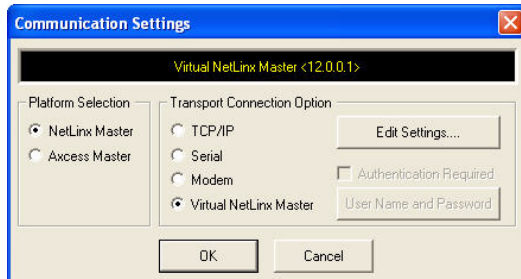

FIG. 107 Communications Settings dialog box
2. Click the **Communications Settings...** button to open the *Communications Settings* dialog box (FIG. 107).